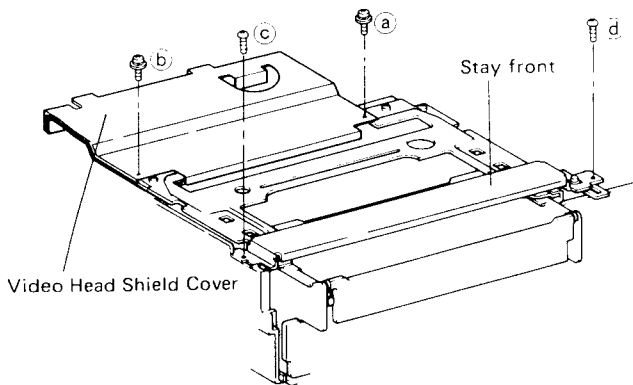

Fig. 3-1
- 2) Remove the two screws (Ⓐ and Ⓑ) retaining the video head shield cover and remove the two screws (Ⓒ and Ⓓ) retaining the stay front as shown in Fig. 3-1.
- 6) Unclamp lead wire on the cassette housing as shown in Fig. 3-1.
- 6) Attach the stay front and the video head shield cover as shown in Fig. 3-1.